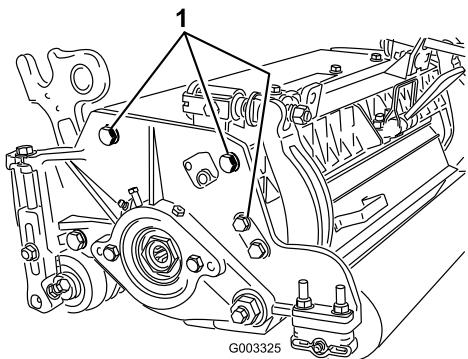

Figure 11
3. Remove (2) nuts securing each roller bracket and spacer to each side plate mounting flange.
**Note:** The position of the rear roller to the reel is controlled by the machining tolerances of the assembled components and paralleling is not required. A limited amount of adjustment is possible by setting the cutting unit on a surface plate and loosening the side plate mounting cap screws (Figure 11). Adjust and retighten cap screws. Torque the cap screws to 27-33 ft-lb (37-45 N-m).